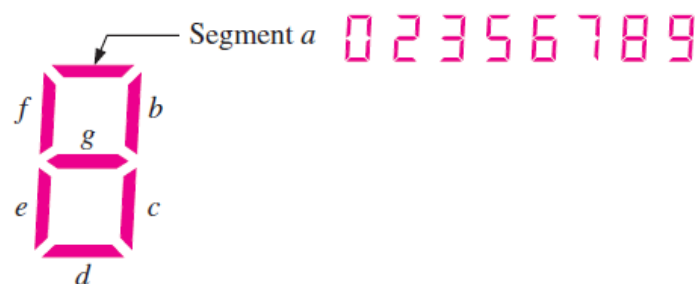

Figure 1. Seven Segment Display
- **Seven Segments Display** is an electronic device that consists of seven Light Emitting Diodes (LEDs) arranged in some definite pattern. It is used to display Hexadecimal numbers (0 to F) or decimal numbers, BCD (0 to 9). LED type can be a common cathode or common anode, as shown in Figure 1. Seven-segment displays are widely used in digital clocks, electronic meters, basic calculators, and other electronic devices that display numerical information.
In a 7-segment display, each of the seven segments is activated for various digits. For example, segment a is activated for the digits 0, 2, 3, 5, 6, 7, 8, and 9, as illustrated in Figure 1.